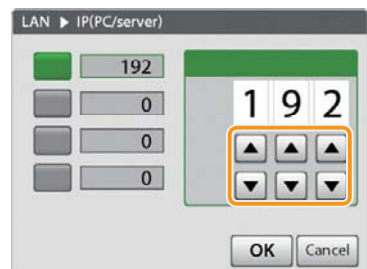

Figure 3-92
4. Tap ▲ or ▼ to input the IP address of the destination PC/server you want to set. (Figure 3-92)